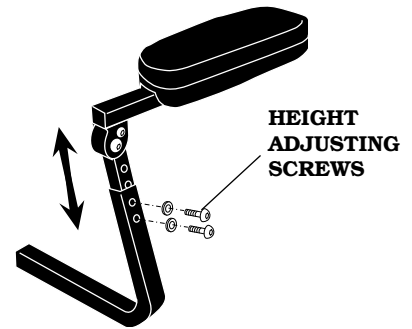

FIGURE 5. ARMREST HEIGHT
1. Use a 5 mm metric Allen wrench\* to remove the two screws and washers that hold the armrest in place. See figure 5.